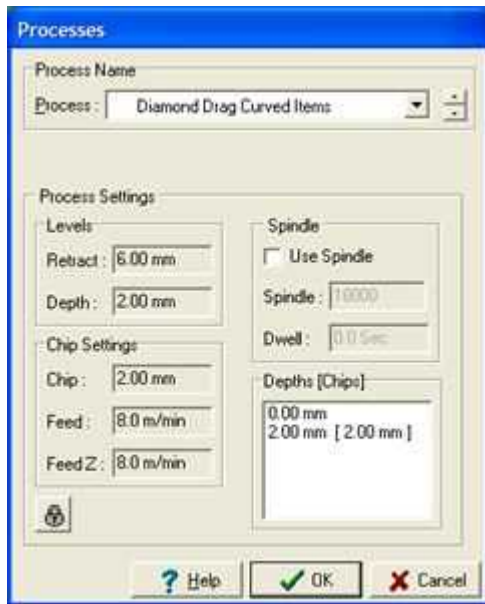

Figure 3
- 5 You will now have the now familiar Processes Dialogue Box, see Figure 3. Change by Clicking On then selecting "Diamond Drag Curved Items", the Click On "OK".